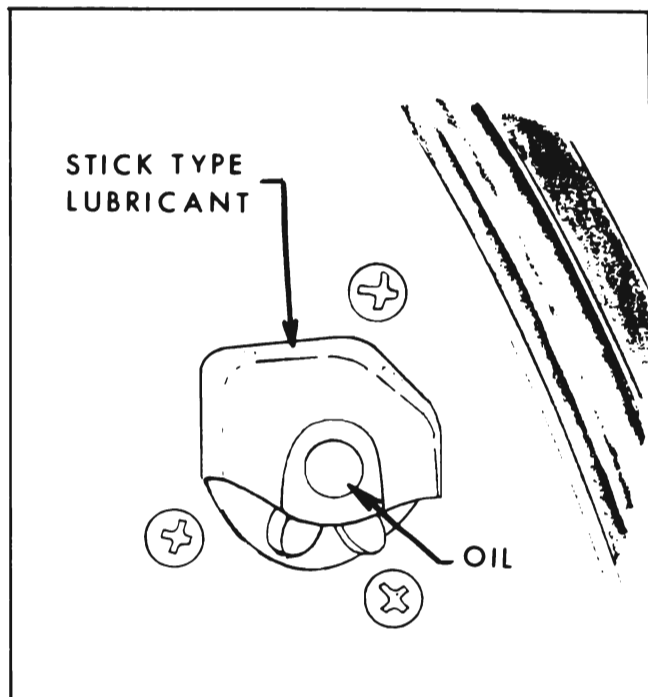

Figure 1-18—Door Lock Rotary Bolt and Housing
7. Door Lock Rotary Bolt and Housing. Wipe off dirt and apply a thin coat of stick-type lubricant and oil (Figure 1-18).